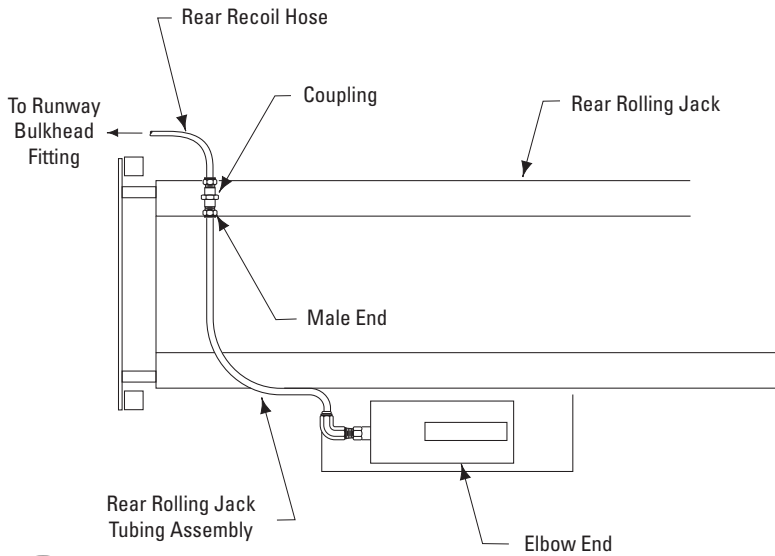

Fig. 35
- C. Connect one end of provided rear recoil hose to bulkhead T-fitting at midpoint of runway. Connect other end of recoil hose to coupling welded on rolling jack, Fig. 35 and 37.
- D. Connect elbow end of rolling jack tubing assembly to air pump and male end to the coupling, Fig. 35 and 37.